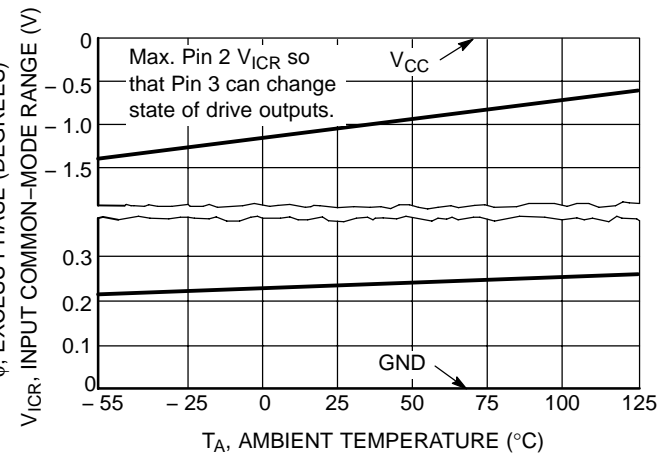

Figure 4. Window Detector Reference-Input Common-Mode Voltage Range versus Temperature
- The upper or lower hysteresis will be lost when operating the Input, Pin 3, close to the respective rail. Refer to Figure 4.
It must be remembered that points V_1 through V_4 always try to follow and center about the reference voltage setting if it is within the input common-mode voltage range of Pin 3; Figures 4 and 5. Initially consider that the feedback input voltage level is somewhere on the dashed line between V_2 and V_4 in [1]. This is within the dead zone range as defined above and the motor will be off. Now if the reference voltage is raised so that $V_{Pin\ 3}$ is less than V_4 , comparator B will turn-on [3] enabling \bar{Q} Drive, causing Drive Output A to sink and B to source motor current [8]. The actuator will move in Direction B until $V_{Pin\ 3}$ becomes greater than V_1 . Comparator B will turn-off, activating the brake enable [4]